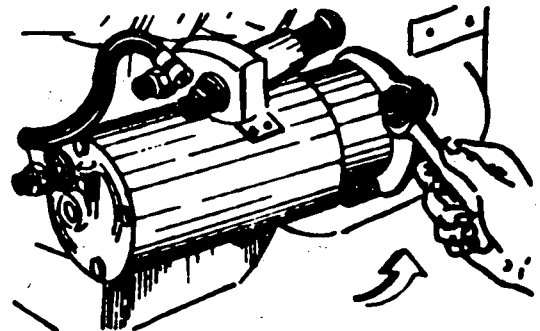

Fig. 8
- c) Remove the fastening bolts of the starter motor (Fig. 8).